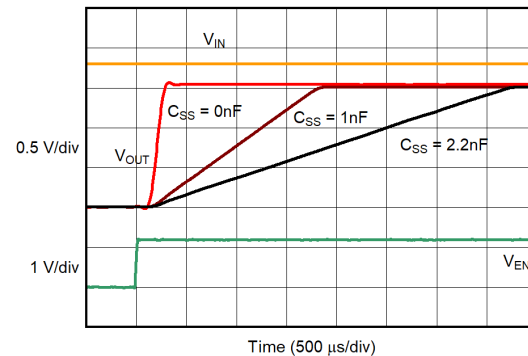

Figure 7-4. Turn-On Response
- Select a minimum of a 2.2- μF ceramic output capacitor. Increased output capacitance helps the output load transient response. Figure 7-4 gives examples of the load transient response with different output capacitor values and types.